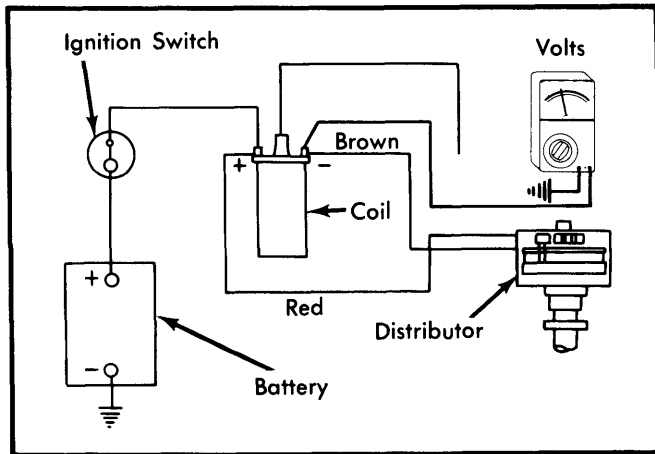

Fig. 6 Checking Coil Negative Terminal Voltage
1) Turn engine over until sensor coil is centered between 2 trigger wheel teeth. Connect voltmeter positive lead to coil's negative terminal. Connect voltmeter negative lead to ground. See Fig. 6.